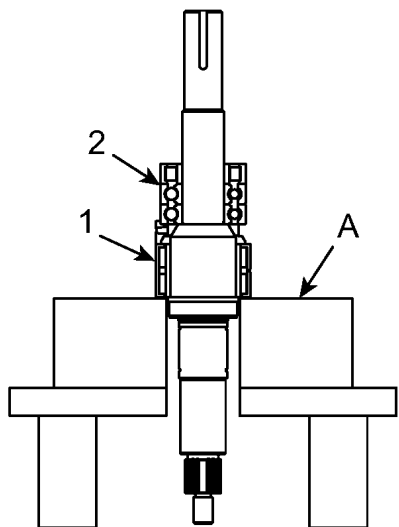

Figure 268 - Press bearings off shaft
2. Use a hydraulic press and V-blocks (Figure 268, item A) to remove the bearings (Figure 268, items 1 and 2) and gear spacer (on drive shaft only, not shown).